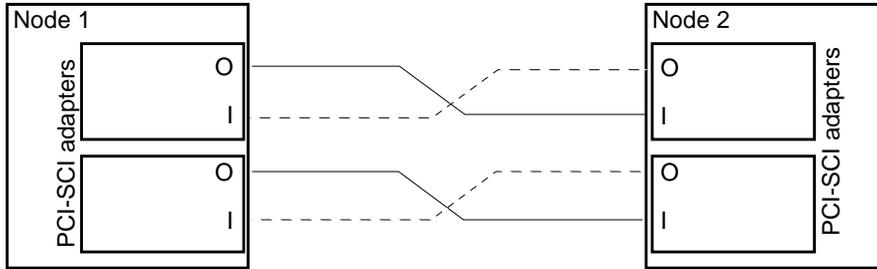

FIGURE 3-3 Typical Two-Node PCI-SCI Cluster Interconnect
- A two-node cluster can use a point-to-point connection, requiring no switch. See FIGURE 3-3.
Connect the ends of the cables marked “SCI In” to the “I” connectors of the adapters as shown in FIGURE 3-3.